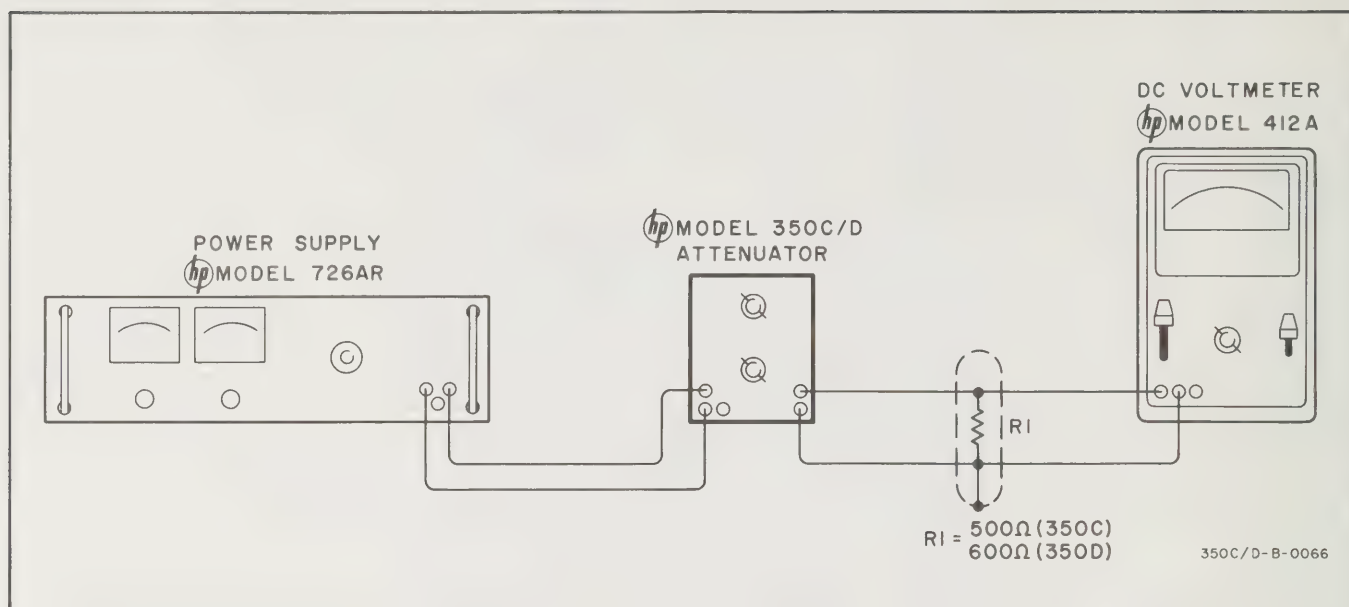

Figure 5-5. DC Performance Test Setup
5-11. The dc performance test setup is illustrated in Figure 5-5. A DC Power Supply (Ⓢ Model 726AR) and a DC Voltmeter (Ⓢ Model 412A) are required for this test. In addition, a Corning Glass Works Co. 500 ohm, 10 watt, LPI-10 $\pm 2\%$ resistor is required for the 350C (600 ohm, 10 watt, LPI-10 $\pm 2\%$ for the 350D). This resistor must be enclosed in a shield as shown in Figure 5-5.
- a. Make test setup illustrated in Figure 5-5.